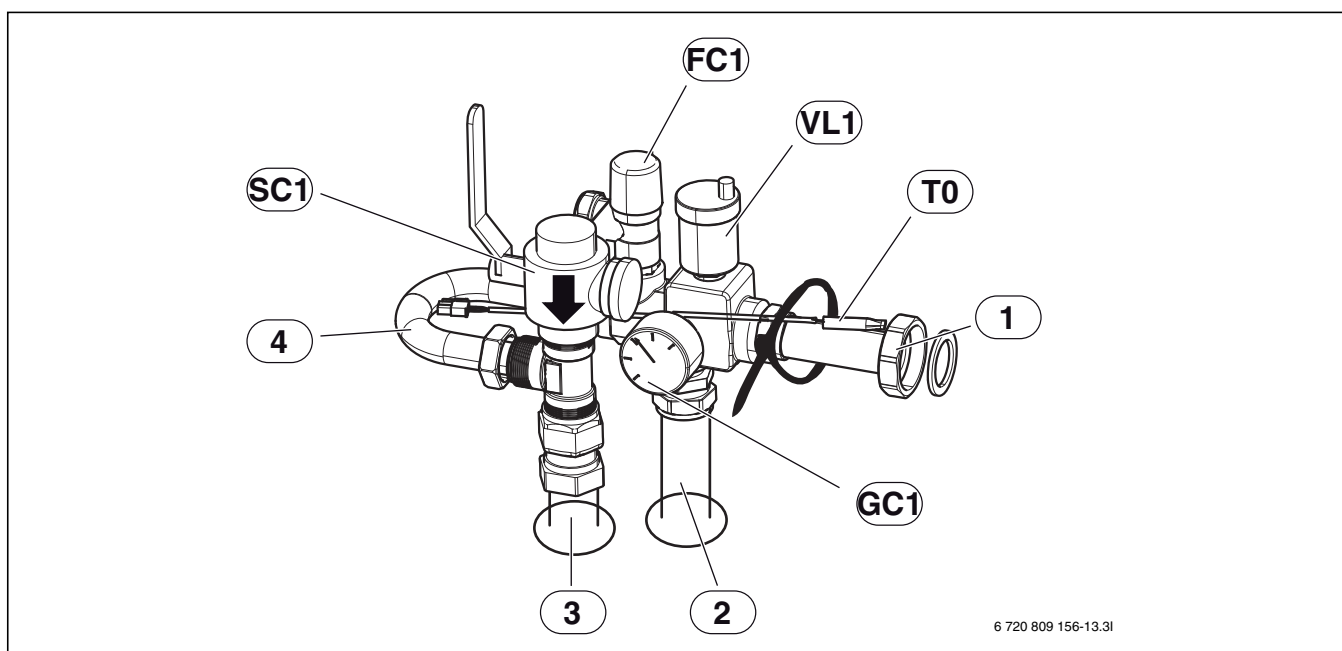

Fig. 10 Safety assembly fitted
- ▶ First install the particle filter ([SC1], figure 10) on the T-unit.
- ▶ Install the other parts, but do not tighten the nuts completely on the bypass ([4], figure 10).
- ▶ Place the flow temperature sensor in the sensor pocket ([T0], figure 10), and secure the sensor with a cable tie.
- ▶ Tighten the nuts completely on the bypass ([4], figure 10).